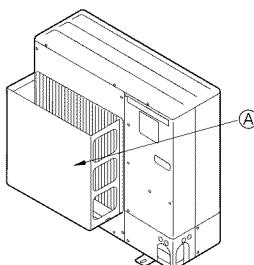
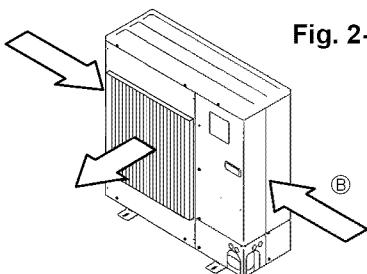

Fig. 2-4
Fig. 2-5
- ② Install an optional air outlet guide and air guide if the unit is installed in a location where strong winds from a typhoon, etc. may directly enter the air outlet. (Fig. 2-4)
- (A) Air outlet guide
- ③ Position the unit so that the air outlet blows perpendicularly to the seasonal wind direction, if possible. (Fig. 2-5)
- (B) Wind direction